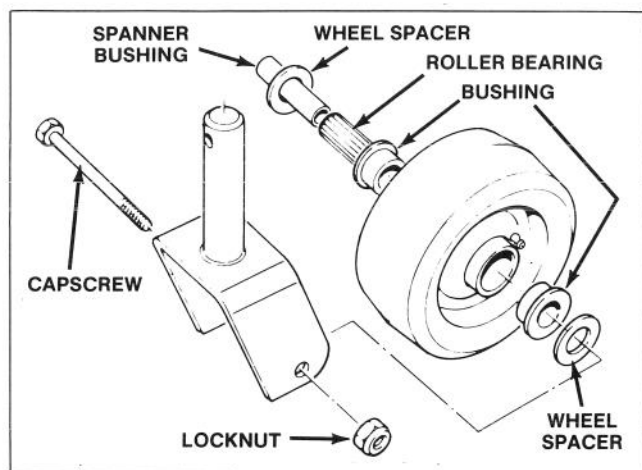

Figure 8
1. Remove locknut from capscrew holding castor wheel assembly between castor fork (Fig. 8). Grasp castor wheel and slide capscrew out of fork.
Note: Account for the two wheel spacers (Fig. 8).
3. Tip wheel to the side and allow roller bearing and spanner bushing to fall out (Fig. 8) (Clean grease and dirt from wheel hub).
5. Press (1) new bushing into wheel hub.
9. Pump more grease through grease fitting on wheel (Fig. 8), until bearing is greased thoroughly.